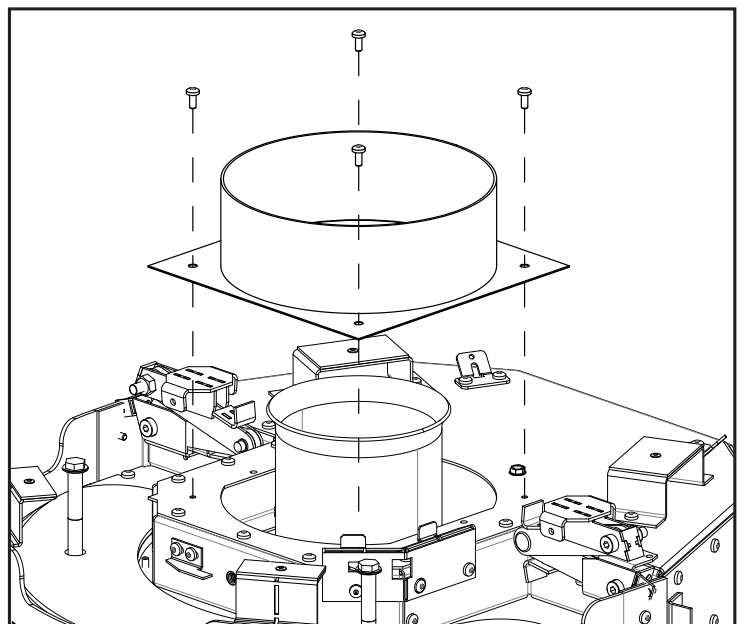

Figure 64: Vent Adapter Removal
7. Remove the vent adapter from the top of the unit by removing the four (4) T20 screws (see Figure 64). Be delicate with the gasket, you will be reusing this.